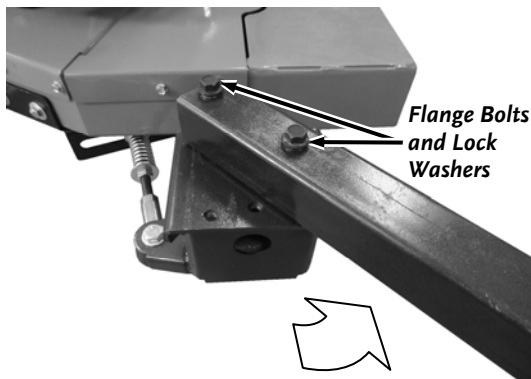

Figure 15
4. Rotate the Tow Bar to align the holes for the desired offset (**Figure 15**).